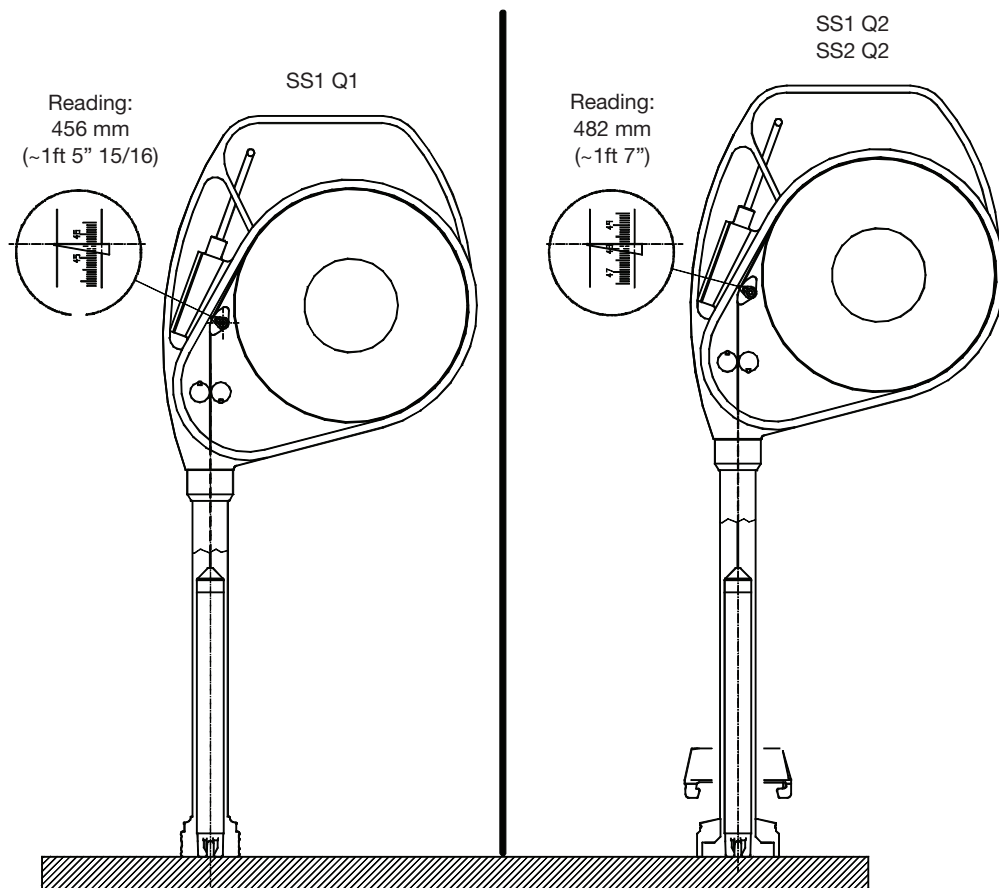

Figure 10-12
- if the equipment is fitted with a 2" connector (Q2) remove the clip and the collar as shown on Figure 10-12;
- gently lower the tape until the sensor touches the surface (Figure 10-12);
- adjust the index to the value corresponding to the connector Q1 or Q2, as shown on Figure 10-12;